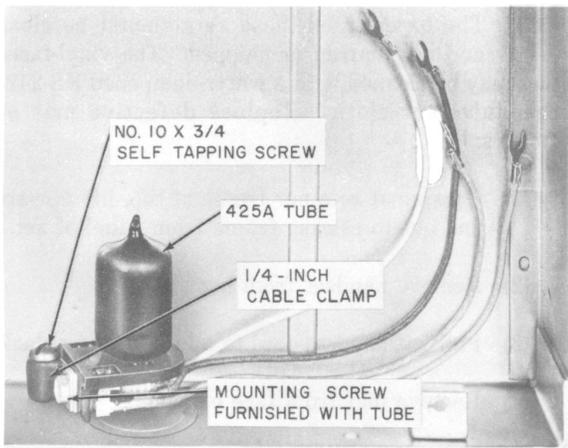

Fig. 3—Installation of Cold-Cathode Tube in Apparatus Box
**3.05** To install in an apparatus box, obtain a 1/4-inch Tinnerman clamp and a No. 10 by 3/4-inch long self-tapping screw. Secure the clamp to the tube base using the mounting screw furnished with the tube. Insert the self-tapping screw through the cable clamp loop and fasten tube to the apparatus box using an existing nailing hole or a hole drilled at required location (Fig. 3).